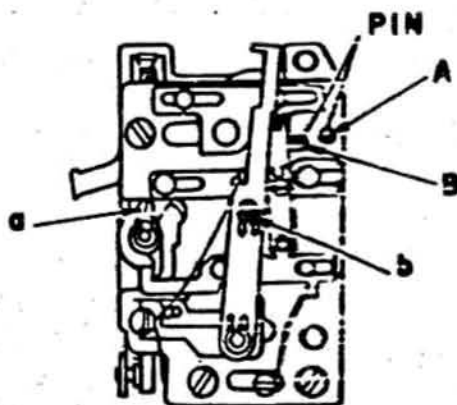
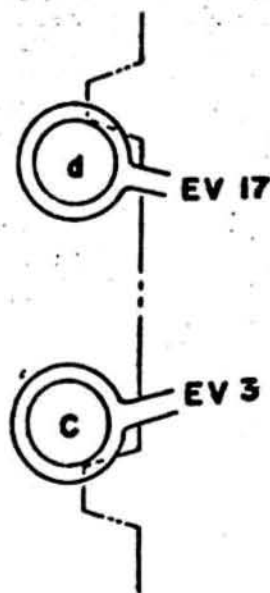

Fig. 1
Fig. 2
(1) Start Position Adjustment
- (b) Align the EV3 position hole in the cam/pulley with the hole "A" in Figure 1 and install the pin to hold the position. (See also Figure 9)
- (d) Adjust eccentric "a" in Figure 1 so the match needle is aligned as shown in Figure 2 "C"
(2) Stroke Adjustment
- (a) Align EV 17 hole with hole "B" in Figure 1 and install pin.
- (c) Adjust eccentric "b" in Figure 1 until the match needle is adjusted to position "d" in Figure 2.
- (3) Repeat procedure to insure that the stroke adjustment is correct.